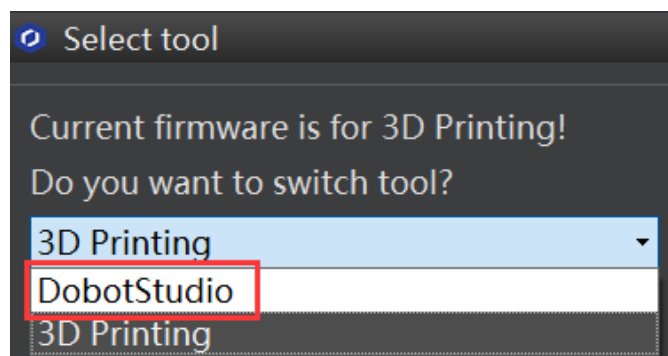

Figure 5.62 Select the DobotStudio to upgrade the Dobot firmware
1. Select **DobotStudio** to upgrade the Dobot firmware, as shown in Figure 5.62. The **Question** dialog box is displayed.